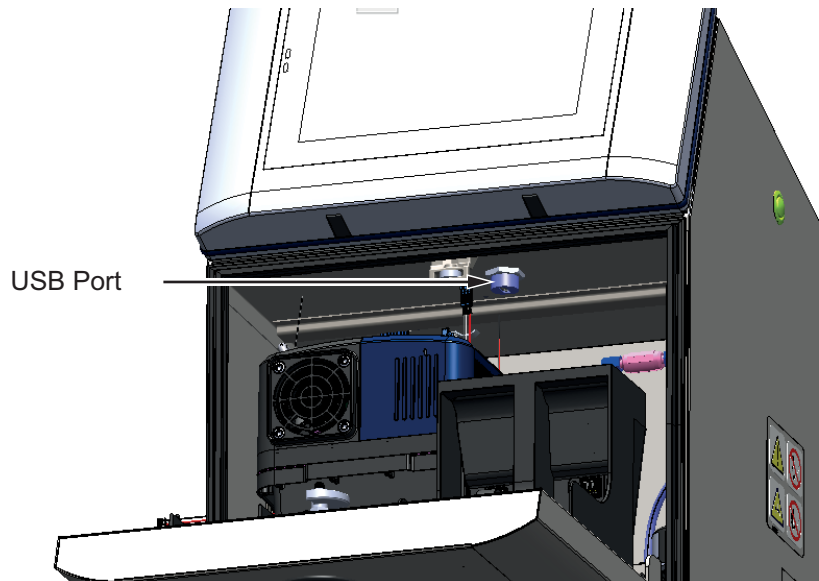

Figure 4-14: USB Location
3. Locate the USB port under the electronics compartment (see Figure 4-14) and insert the USB.